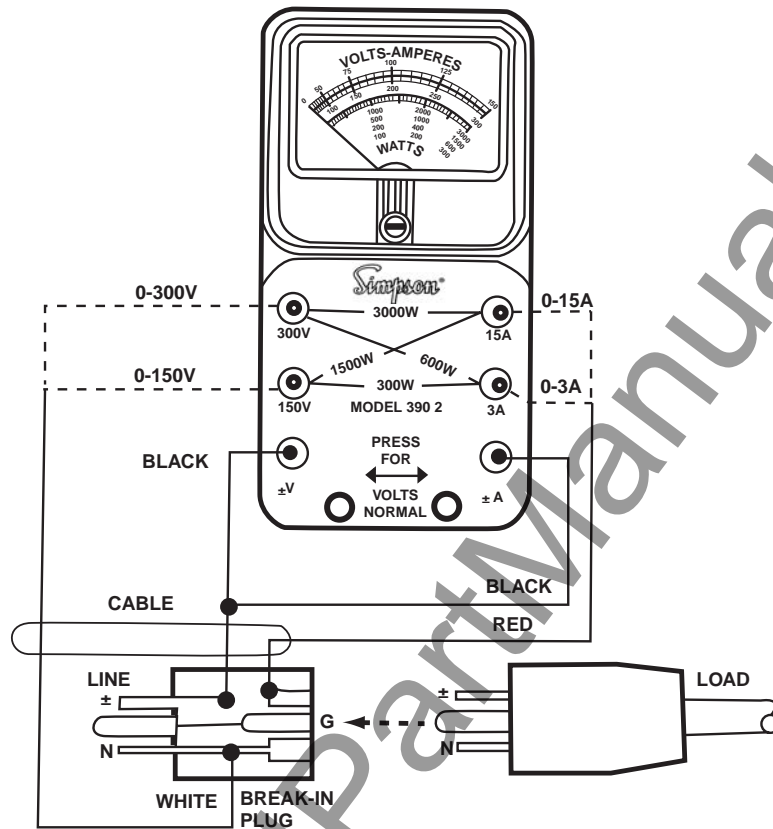
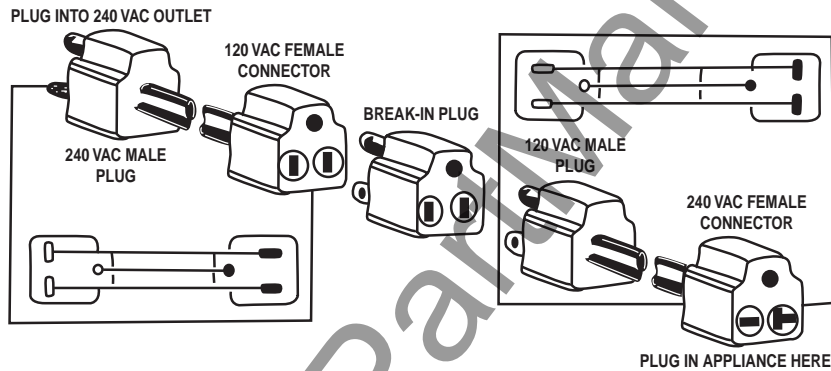
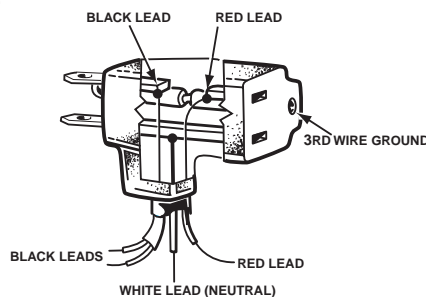

Figure 4.1 Break-In Plug Connections, 150V, 3A and 300W Ranges
Figure 4-3. Break-In Cable Assembly and Cable Adapter Set
Figure 5-4. Cross Section of Break-In Plug, Showing Cable Connections
When testing line-operated devices, always use the Break-In Cable Assembly supplied with the Instrument (see Figure 4-1 on page 7). Make up a cable adapter set for use on 240 VAC line-operated devices (see Figure 4-3 on page 12).
1. Connect the leads from the Break-in Plug Assembly according to color as shown in Figure 4-1. Connect the white lead to the jack marked 150V when testing 120 volt devices, or to the jack marked 300 V when testing 240 volt devices.
1. Connect the leads from the Break-In plug according to color as shown in Figure 4-1 on page 10. To use the 3A range, connect the red lead to the terminal marked "3A". Use the 0-300 scale and drop two zeros (divide by 100).
4. Plug the device to be checked into the Break-In Plug as shown in Figure 4-1.
1. Connect the leads from the Break-In Plug according to their color as shown in Figure 4-1.
3. Plug the device to be checked into the Break-In Plug as shown in Figure 4-1.
1. An adapter is required to connect from 120V to 240V line (see paragraph 4.3). The Break-In Plug will not connect directly into a 240V line. Therefore, it is necessary to construct an adapter plug. Refer to Figure 4-3 for adapter make-up and test connections.
2. Connect the white lead from the Break-In Plug (see Figure 4-1) to the 300V meter terminal. Connect the black leads to the  $\pm V$  and  $\pm A$  terminals.
The special Break-In Plug supplied permits connections across the line for voltage measurements and in series with the load for current measurements. These connections are clearly shown in Figure 4-1. Figure 5-4 shows the cable connections within the plug.